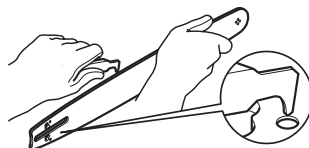

Fig. 38
- > Check the oiling port (22) for clogging and clean if necessary to ensure proper lubrication of the guide bar and saw chain during operation. Use a soft wire small enough to insert into the oil discharge hole.
- > Check the drive sprocket (20). If it is worn or damaged due to strain, have it replaced by an authorised service agent.
- > Clear residue from the rails on the guide bar (5) using a screwdriver, putty knife, wire brush or other similar tool. This will keep the oil passages open to provide proper lubrication to the bar (5) and chain (4) (Fig. 38).